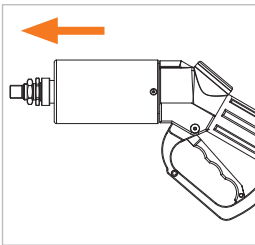

Figure 23
- ▶ Carefully pull the WEH® Service receptacle straight out of the fueling nozzle (*Figure 23*).